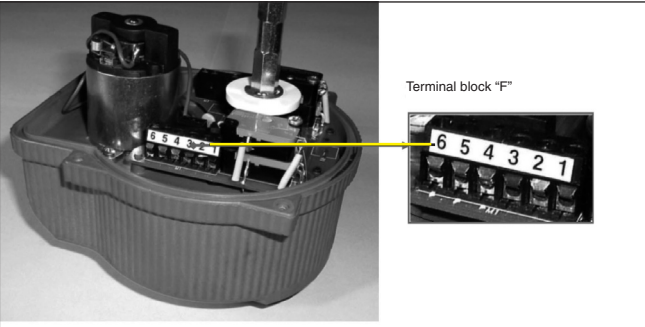

Fig.2 Plate for supply 12 and 24V DC and particular of terminal block "F"
4.2 Electrical connection for models supplied with 12-24V AC/DC (fig. 2 and 4)